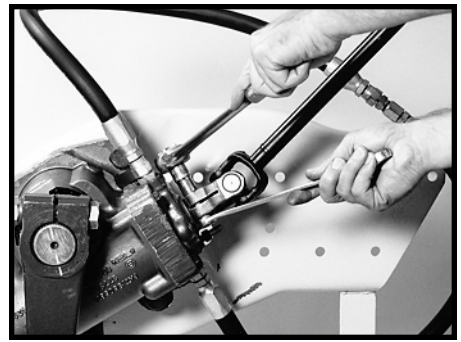
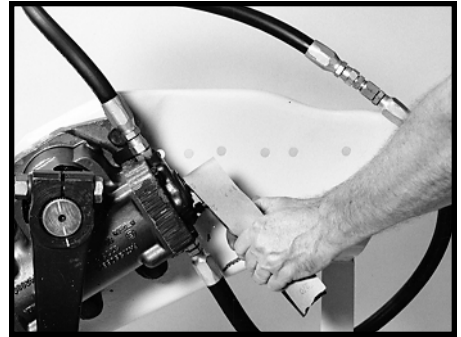

Figure 19
Figure 20
- 2.1 If there is a leak in the shaft seal, you can usually replace the input shaft seal assembly (7 and 8) with the gear on the vehicle. Start by removing the input coupling per the vehicle manufacturers instructions. SEE FIGURE 19. Remove seal protector (62) and clean the area around the input shaft with a fine grade of emery paper. SEE FIGURE 20.